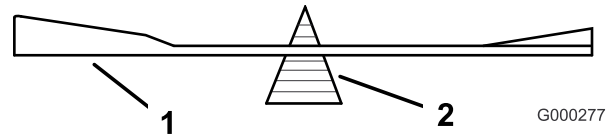
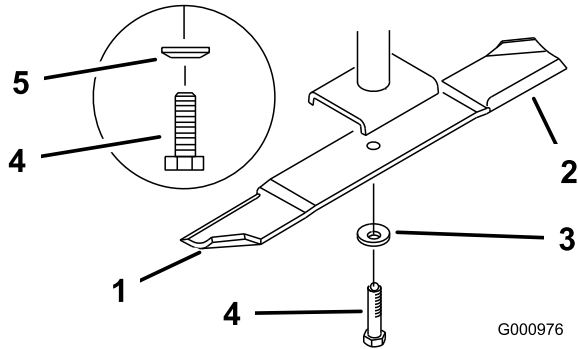

Figure 89
Figure 90
2. Remove the blade bolt, spring disk and blade from the spindle shaft (Figure 90).
2. Check the balance of the blade by putting it on a blade balancer (Figure 89). If the blade stays in a horizontal position, the blade is balanced and can be used. If the blade is not balanced, file some metal off the end of the sail area only (Figure 90). Repeat this procedure until the blade is balanced.
1. Install the blade onto the spindle shaft (Figure 90).
2. Install the spring disk and blade bolt. The spring disk cone must be installed toward the bolt head (Figure 90). Torque the blade bolt to 85-110 ft-lb (115-150 N-m).